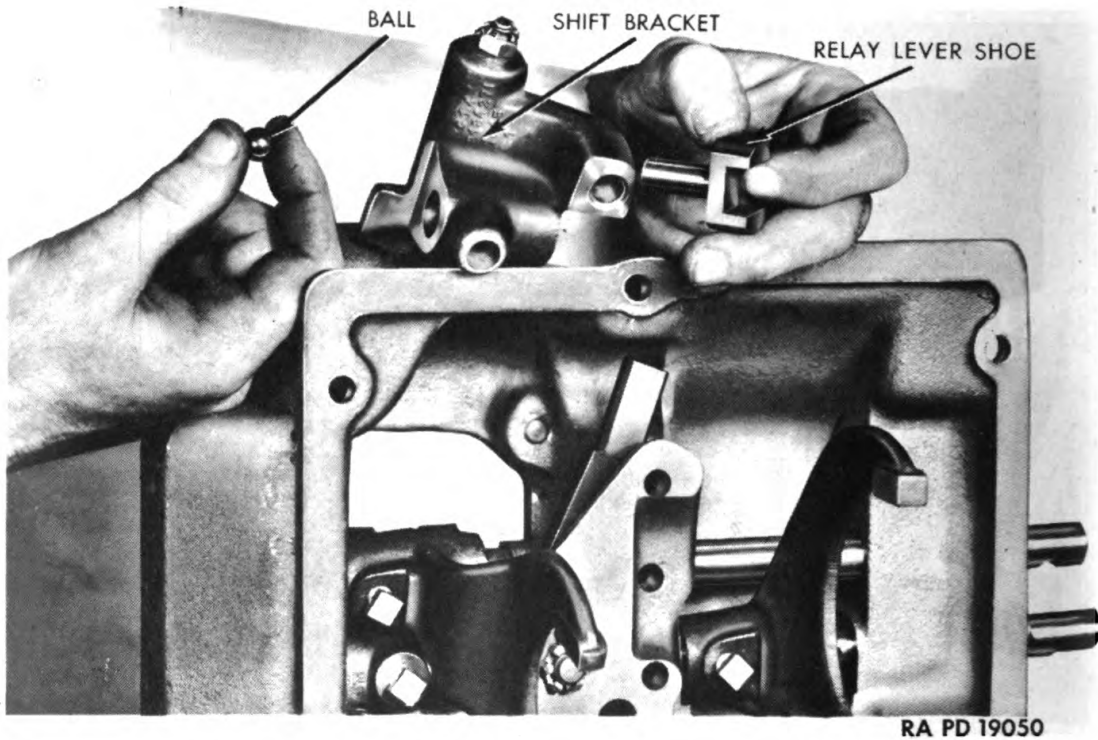

Figure 128 — Removing Reverse Shift Rod Bracket, Ball, and Relay Lever Shoe
(1) REMOVE REVERSE SPEED SHIFT ROD, BRACKET, AND FORK. NOTE: *This rod is the shortest of the three.* Remove lock wires from shift fork and shift bracket set screws. Remove set screw from reverse upper shifter fork. Drive shift rod out through front of housing, removing small expansion plug. Remove reverse upper shift fork from housing (fig. 126). Continue removal of shift rod until shift rod bracket is free from rod (fig. 127). NOTE: *Do not lose reverse shift bracket lock ball (fig. 128).* Remove reverse shift bracket, ball, and relay lever shoe from housing (fig. 128). Remove reverse shift rod poppet ball and spring (fig. 129). Remove